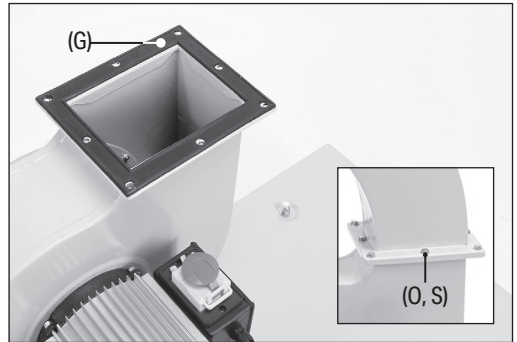

Fig. 4
4. Attach the extraction chute (H) to the ducting unit (Fig. 4):
- a. Place a gasket (G), ridged side up, and the extraction chute onto the square opening so that the holes align.